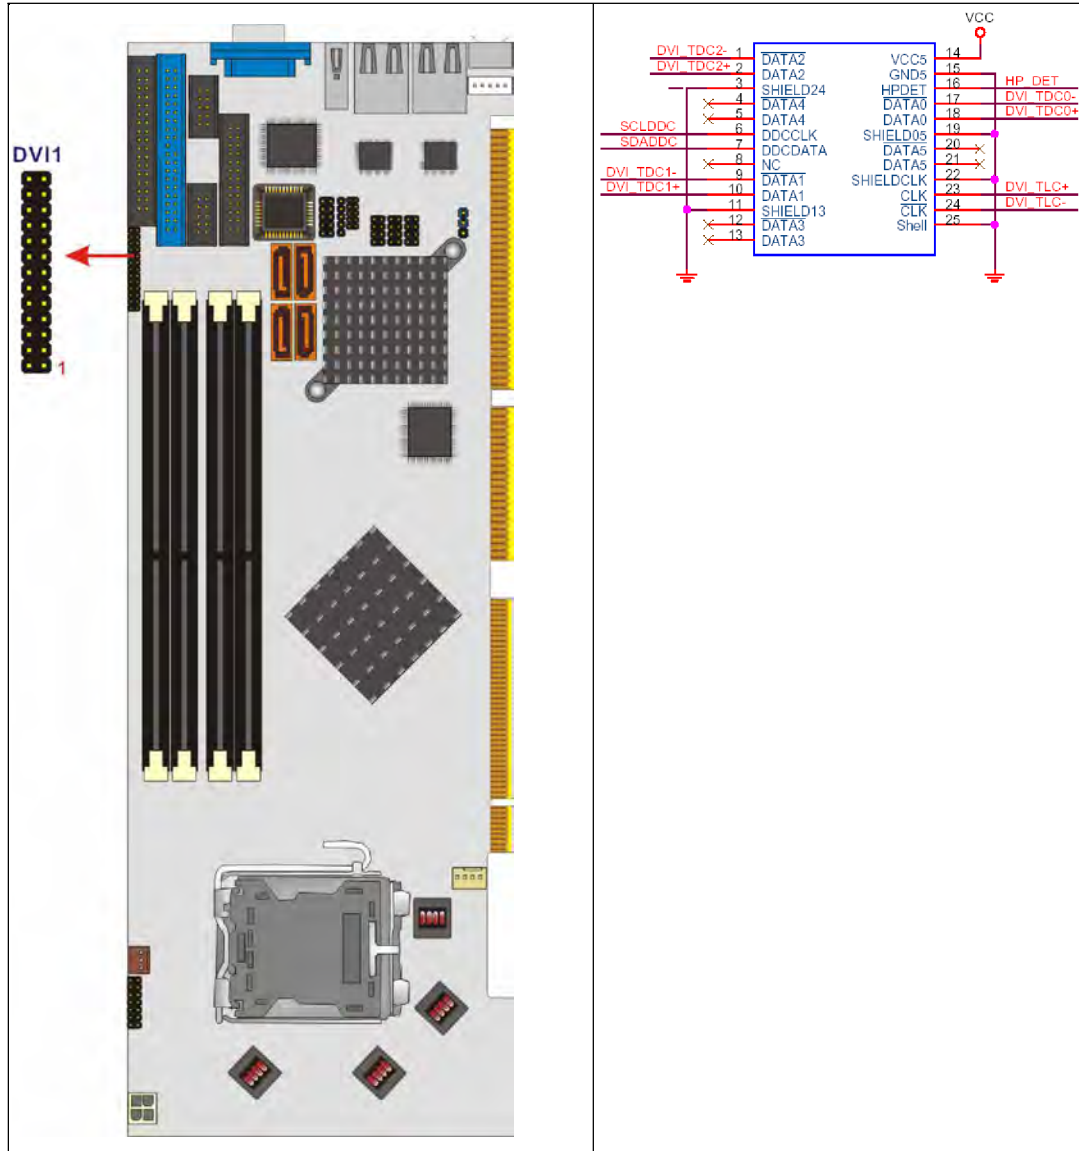

Figure 3-7: DVI Connector Location
- CN Location:** See **Figure 3-7**